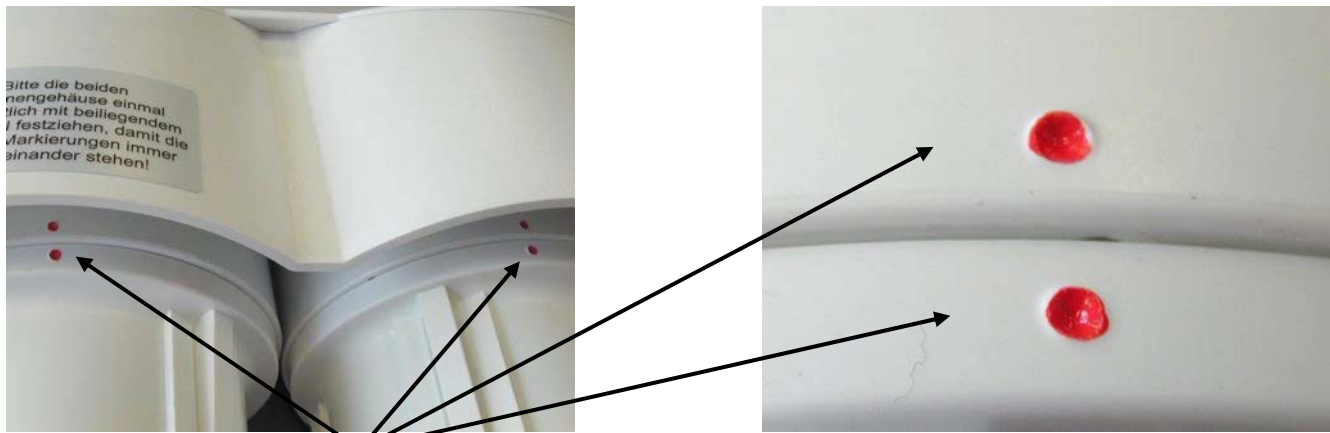

Figure 19: Markings at the housing of MELAdem® 40 and at the cartridge housings
Once a week	Check if the cartridge housings are fixed tight, if necessary tighten the housings (see Figure 19)
- Screw the container elements finger-tight, and then use the filter wrench to fully tighten the cartridge housings anti-clockwise, as seen from above until the marks show to each other as shown in *Figure 19*. Do not change the housings from one side to the other otherwise the marks on the housings will not be in the correct place.
- Replace the filter wrench in the compartment under the cover (3) of the MELAdem[®]40.